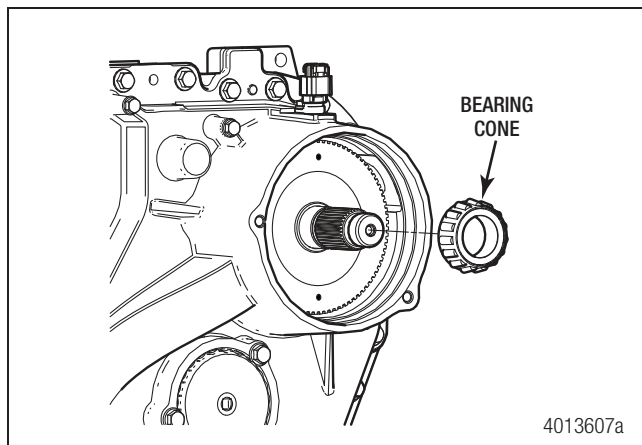

Figure 7.37
18. Install the outer bearing cone on the input shaft. Figure 7.37.